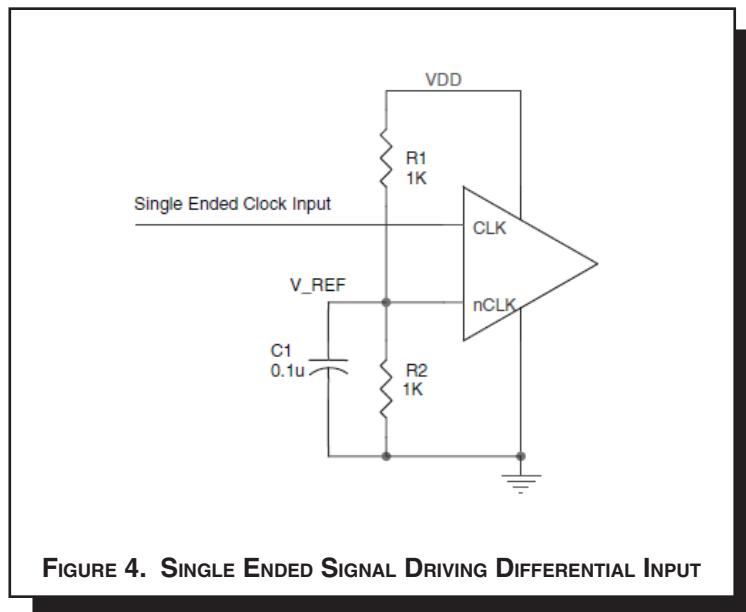

FIGURE 4. SINGLE ENDED SIGNAL DRIVING DIFFERENTIAL INPUT
*Figure 4* shows how the differential input can be wired to accept single ended levels. The reference voltage  $V_{REF} = V_{DD}/2$  is generated by the bias resistors  $R1$ ,  $R2$  and  $C1$ . This bias circuit should be located as close as possible to the input pin. The ratio